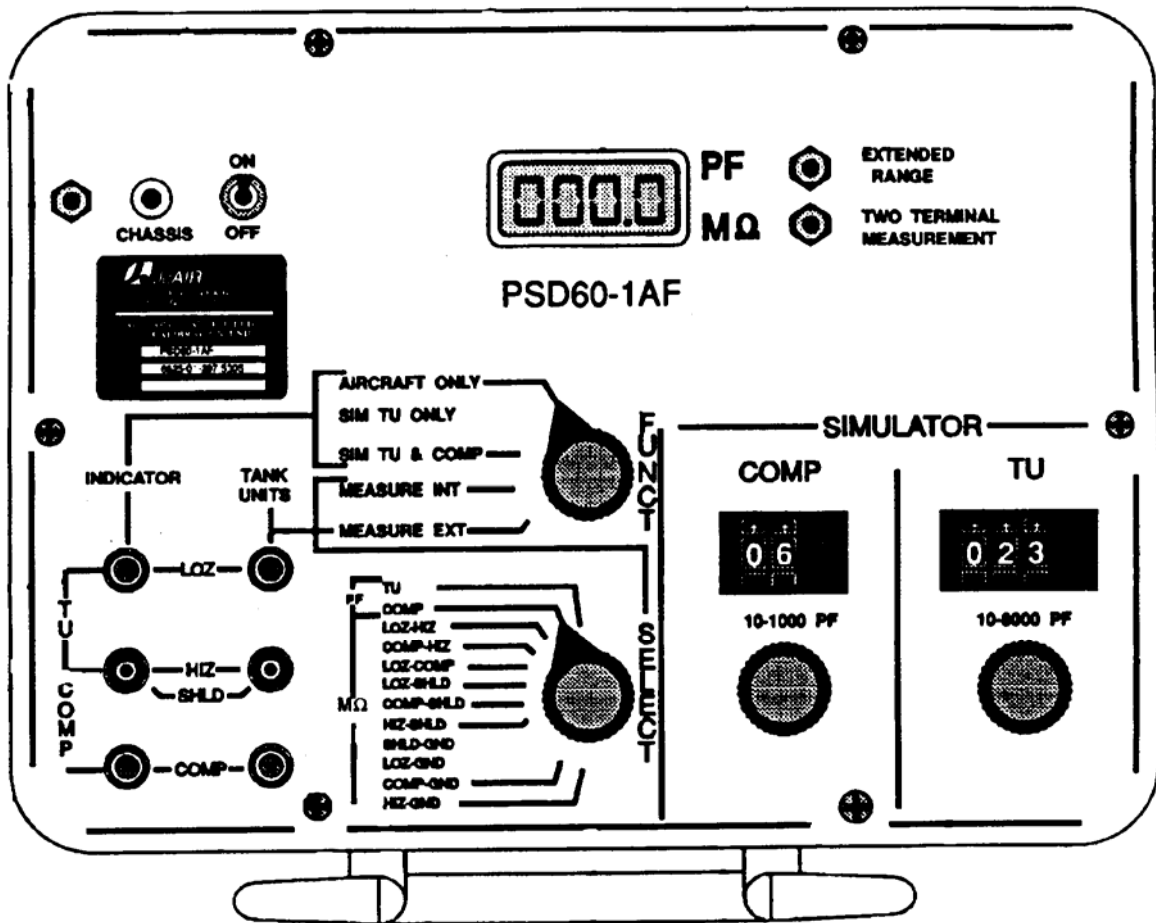

Figure 1. Front panel.
7. Equipment Setup. Set **ON-OFF** power switch to **ON** (fig. 1) position and allow five minutes for TI to warm-up and stabilize.